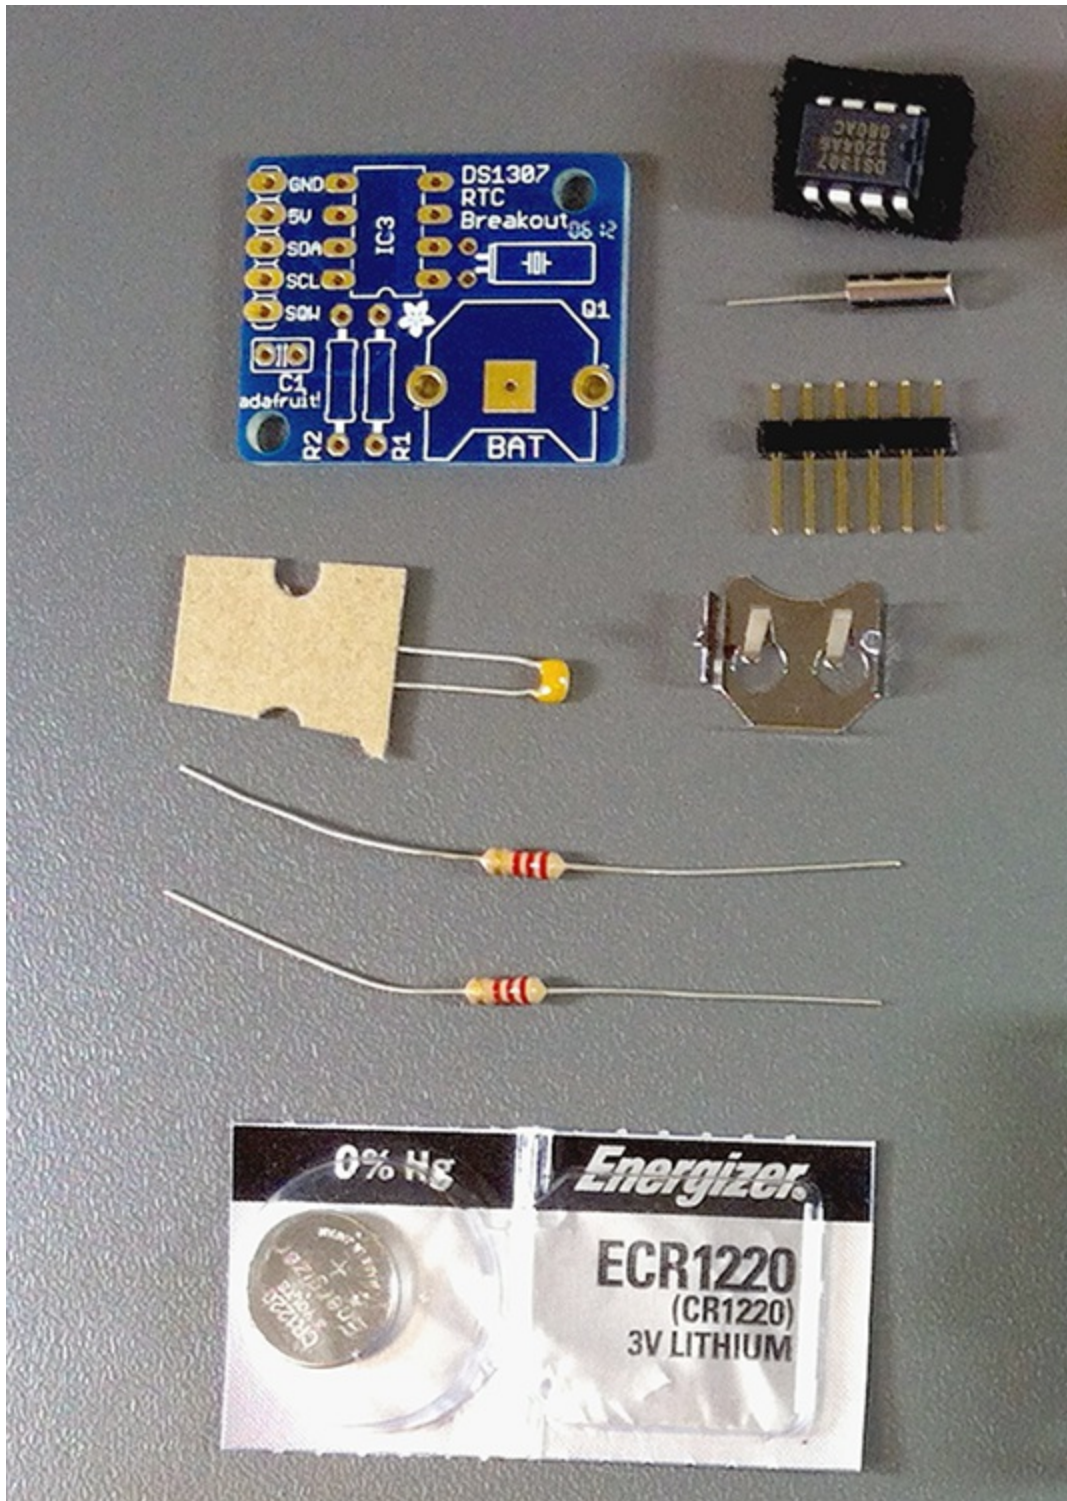

Figure 7-2: Inside the Adafruit Industries RTC DS1307 Breakout Board kit.
Many RTC modules are on the market in a variety of physical packages. In terms of its ease of use, one of the best is the RTC DS1307 Breakout Board module from Adafruit Industries. Figure 7-2 shows an enlarged view of the parts in this kit. It is based on the Dallas Semiconductor DS1307 Integrated Circuit (IC), which is an inexpensive and rugged real-time clock. It's on the low-end cost-wise, so it may lose or gain a small amount of time over extended periods. More precise products are available, but they are much more expensive. You could skip getting the kit, purchase the various parts necessary to use the DS1307 and build it yourself, but the breakout board kit contains all the parts and the printed circuit board makes it very simple to connect the components correctly.
where all the components should be placed. Refer to Figure 7-2 and solder them in the following order: